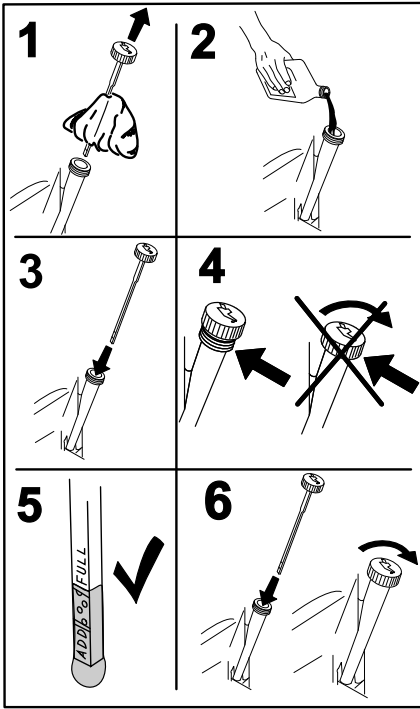

Figure 46
- Slowly pour approximately 80% of the specified oil into the filler tube and slowly add the additional oil to bring it to the **Full** mark (Figure 46).